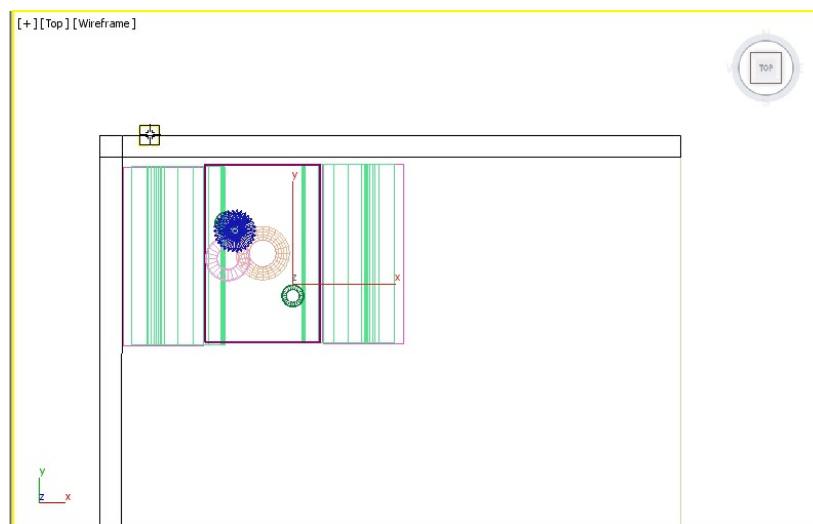

Figure P1-19 Clicking on the upper edge of wall01
3. Choose the **Fixed** tool from the **Object Type** rollout. Next, click on the upper edge of *wall01*, as shown in Figure P1-19 and drag the cursor horizontally to specify the width of the window. Next, release the left mouse button and move the cursor down to specify the depth of the window and click on the lower edge of *wall01*. Now, move the cursor up to define the height of the window and click on the screen; the fixed window is created.